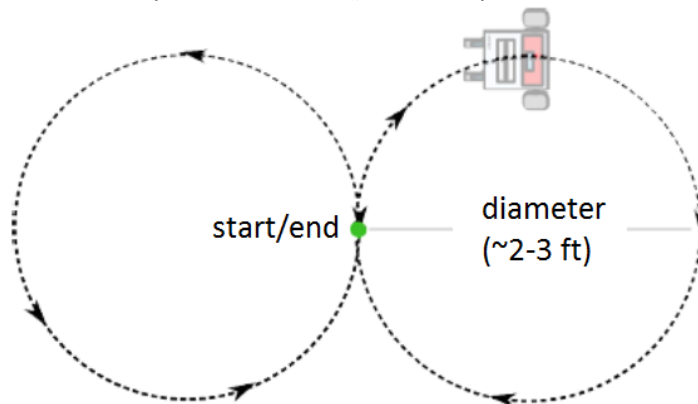

Figure 8: Figure Eight Robot Motion
#### Part 4 – Circle and Figure 8
3. Next, create a “`moveFigure8()`” function to move the robot in a figure eight using two circles (see Figure 8).
4. Try to adjust the code so that the robot passes through the same center point of the figure 8 each time. You should call the `moveCircle()` function twice to create the `moveFigure8()` function. This means you may need to modify the `moveCircle()` function pass it a direction variable.
5. Use the reference frame shown in Figure 8 for the *goToGoal()* behavior.